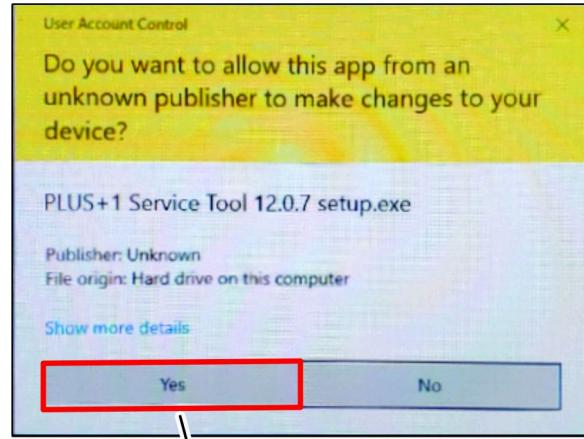

Figure 18
2. If the User Account Control dialog box displays, click the YES button (Figure 18).